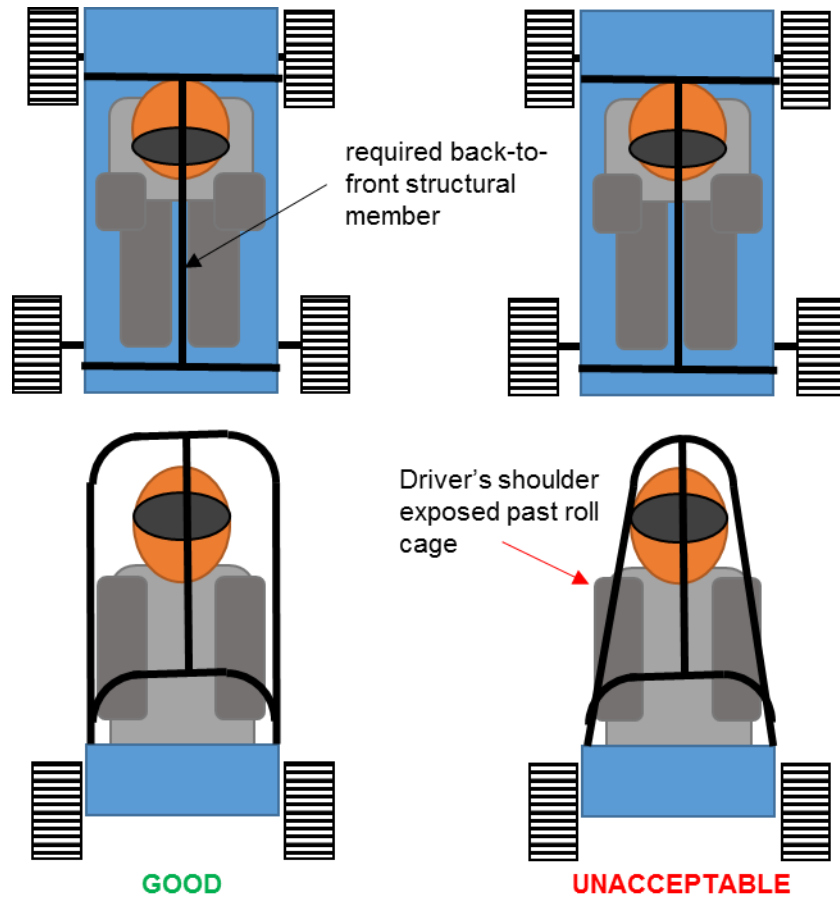

Figure 2. Top and front views showing roll cage examples.
- The roll cage must exceed the driver's profile from all sides in the event of a rollover, and must contain at least one front-to-back structural member and as indicated (Figure 2).